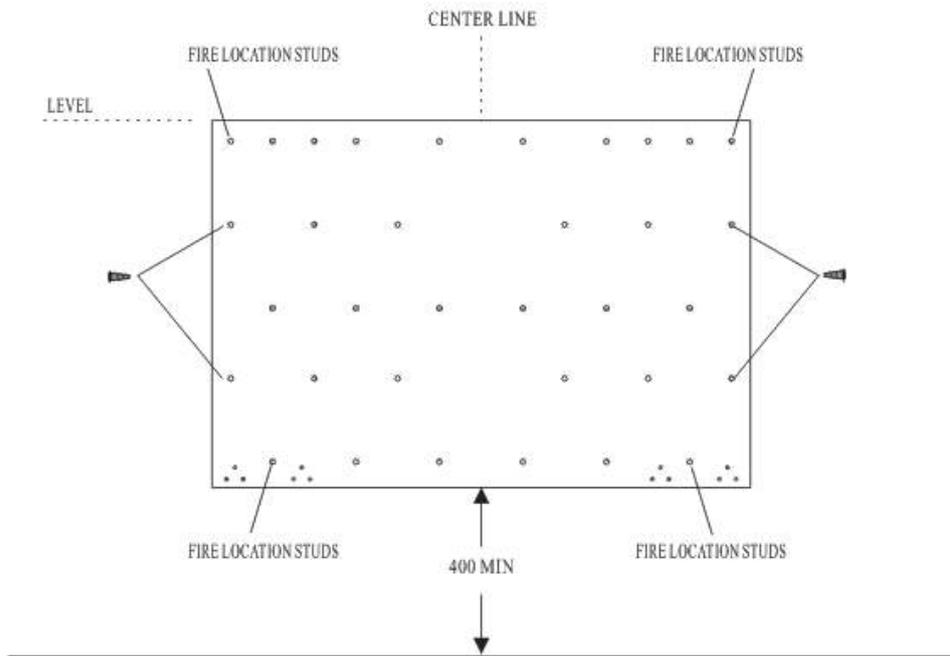

FIG 1
3. When the Celsi Electriflame product is unpacked unscrew the four transit screws holding the fixing plate to the back of the fire. Place the Fixing Plate supplied to the horizontal line and line up the central “V” cut out with you centre line. See Figure 1.
4. Mark out at least four of the fixing holes through the fixing plate to the wall. It is imperative that the fixing plate is secured firmly to the wall. See Figure 1.
8. The fixing plate has four location studs, one at each corner of the plate. See figure 1.